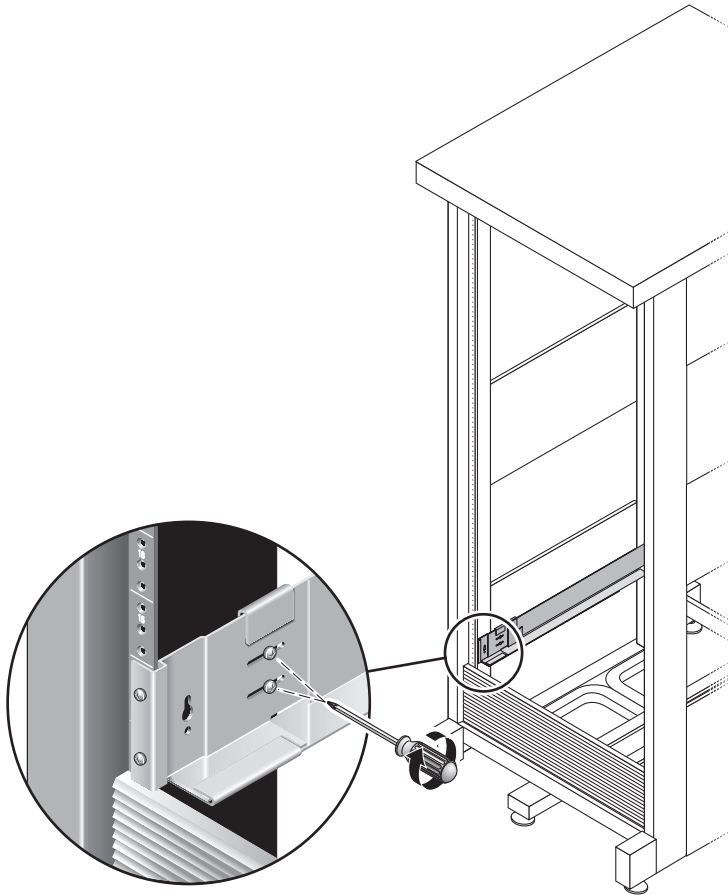

FIGURE 2-12 Tightening the Adjusting Screws
- Using the No. 2 Phillips screwdriver, tighten the four adjusting screws (two on each side) toward the back of each rail (FIGURE 2-12).